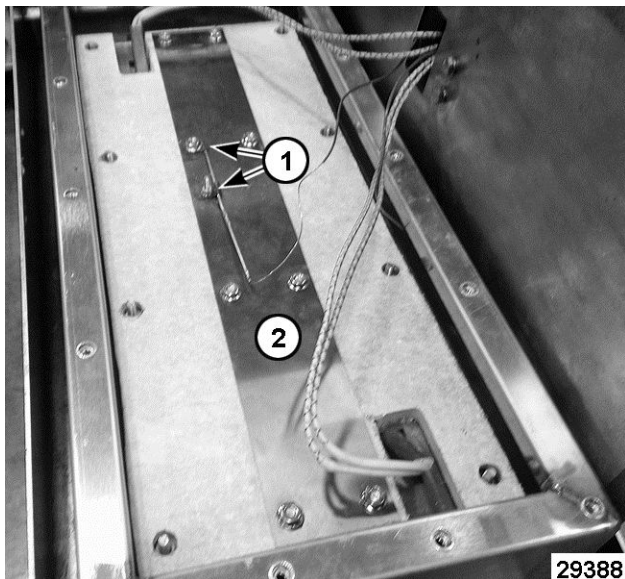

Fig. 36
- D. Remove mounting clips (1, Fig. 36) securing high limit capillary bulb to platen insulation retainer (2, Fig. 36).